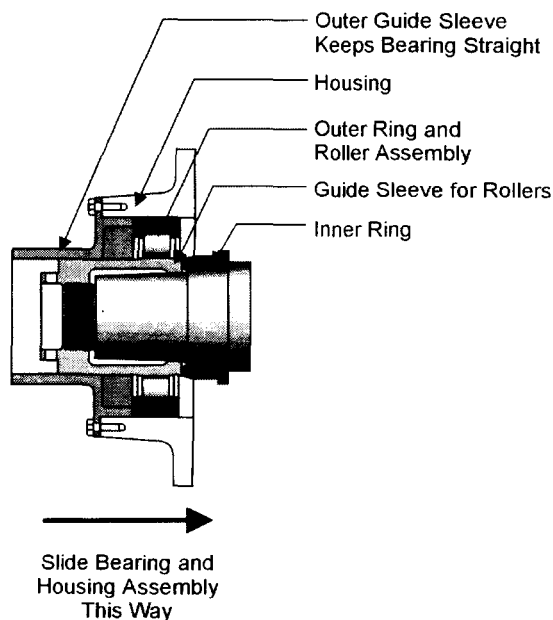

Figure 24 – Using a guide sleeve to install a separable bearing.
3. Oil the outer ring and the rollers and push the assembly into the housing using a guide sleeve (Figure 24).